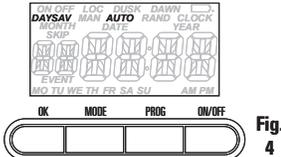

Fig. 4
- DAYSAV** and **AUTO** will show in the mode display area (Fig. 4). The timer will automatically adjust the clock for Daylight Saving Time (DST) when set to **AUTO** here. If you do not want the timer to do this, turn the selector knob until **MANual** shows.